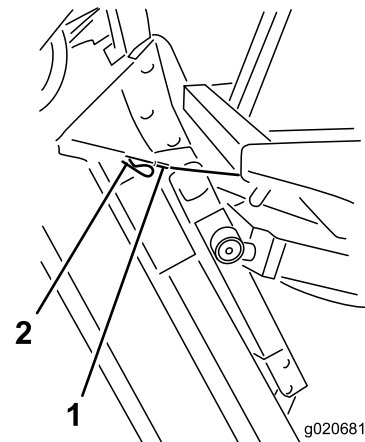

Figure 119
6. Hold the cutting unit upright, fit the cable end over the pin on the cutting unit lift arm, and secure it with the hairpin cotter (Figure 119).